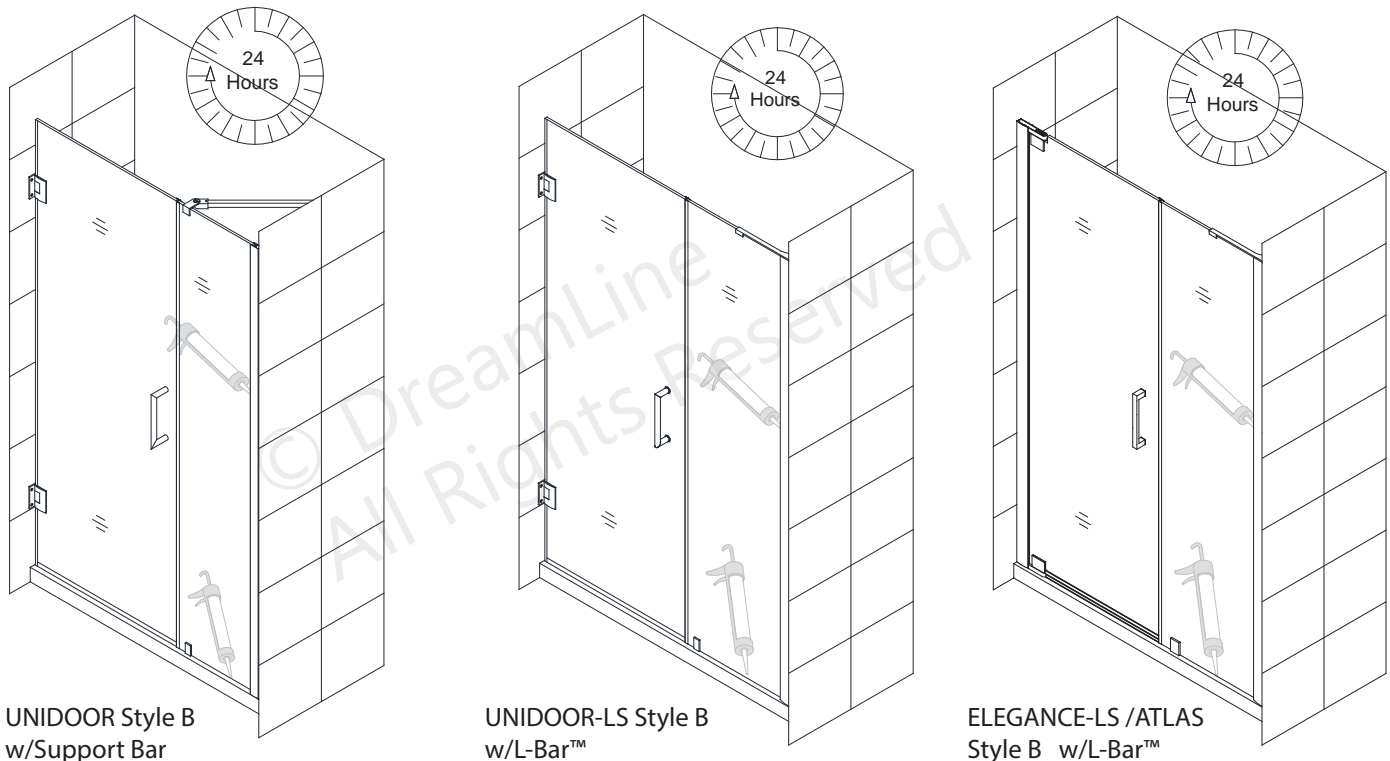

**Fig 13**
**13.** Adjust the **Stationary Panel Glass** to plumb if necessary and tighten the screws. Attach the **Decorative Cover (#4.4)** to the **L-Bar™ (#4.3)**. Firmly secure the **L-Bar™ (#4.3)** to the top of the **Panel Glass** using the clear gasket and rubber-tipped set screws. **(Fig 13)**